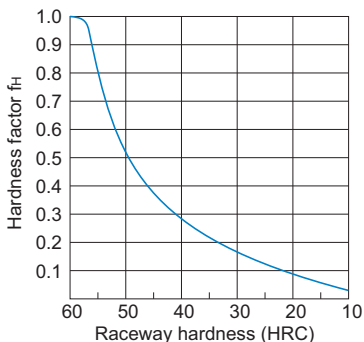

Fig.8 Hardness Factor (f_H)
f_H : Hardness factor (see Fig.8 on **A1-68**)
- f_H : Hardness factor (see Fig.8 on **A1-68**)